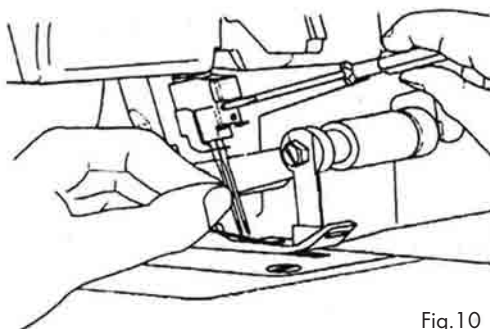

Fig. 10
2. Loosen the needle retaining screws with the small screwdriver until the needles are free (Fig. 10).
3. Firmly tighten the needle screws with the small screwdriver (Fig. 10).